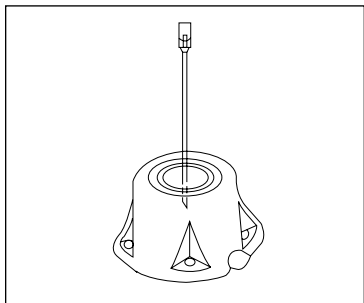

Figure 6. Needle and Access Port
6. Position the needle perpendicularly to the septum of the Access Port (Figure 6).